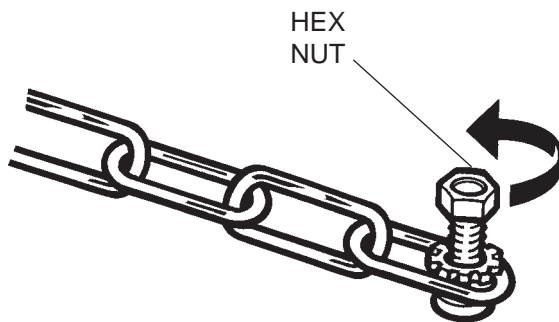

Figure 4 – loosening the hex nut
1. Loosen the hex nut at the unattached end of the safety chain, until it is flush with the screw end. Do not remove it completely. (Figure 4).